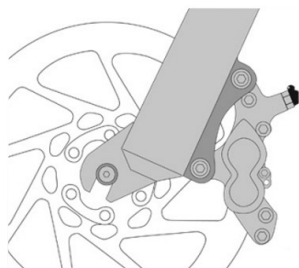
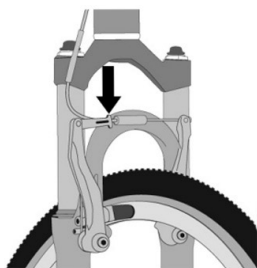

figure 11
figure 12
- **System Power:** Some bicycle brakes, such as Disc Brakes (figure 11) and Linear-Pull Brakes (figure 12), are extremely powerful. You must take extra care in becoming familiar with these brakes and exercise particular caution when using them to avoid locking the wheels accidentally.